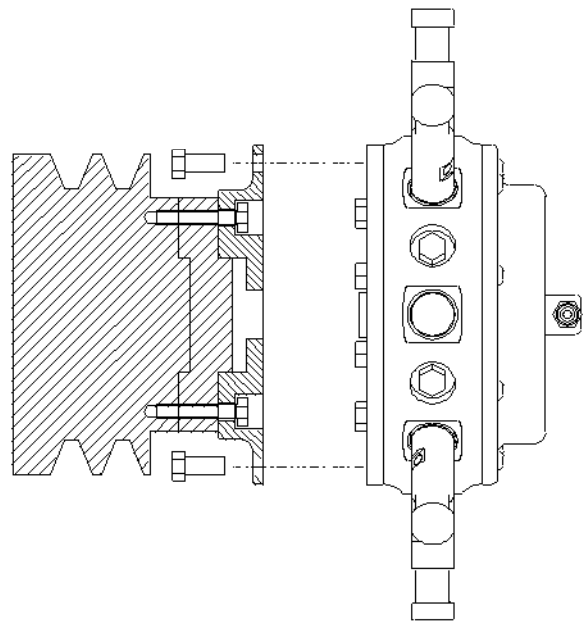

Figure 4
4. Remove the shipping plug from the rear of the fan. Place the Series 2000/Series 3000 fan onto the mounting adapter and torque the 3/8" bolts to 35 ft-lbs (47 N.m). Do not use loctite. Refer to **Figure 4**.